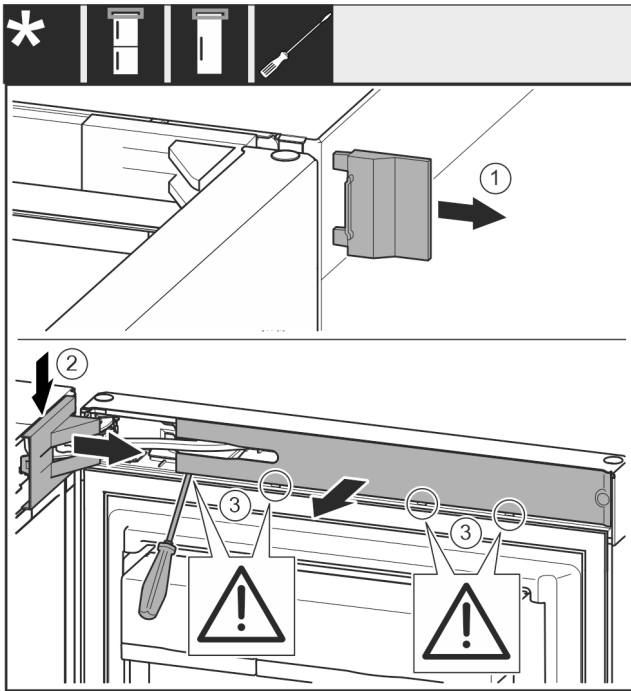

Fig. 10
- Remove cover Fig. 10 (1).
- Disengage and loosen the swap bearing block cover Fig. 10 (2).
- Remove the swap bearing block cover Fig. 10 (2).
- Use a slotted screwdriver to unlatch the trim Fig. 10 (3) and swing it to the side.